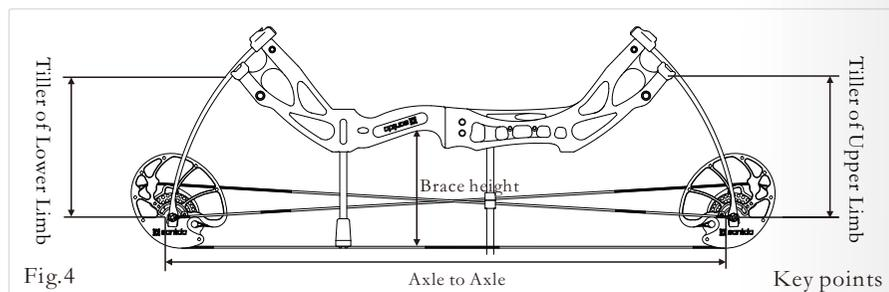

Fig.4
- **Tiller:** The difference between the distance of the top limb (rear face) and the string as compared to the same measurement of the bottom limb (rear face) and string. (See Fig.4)